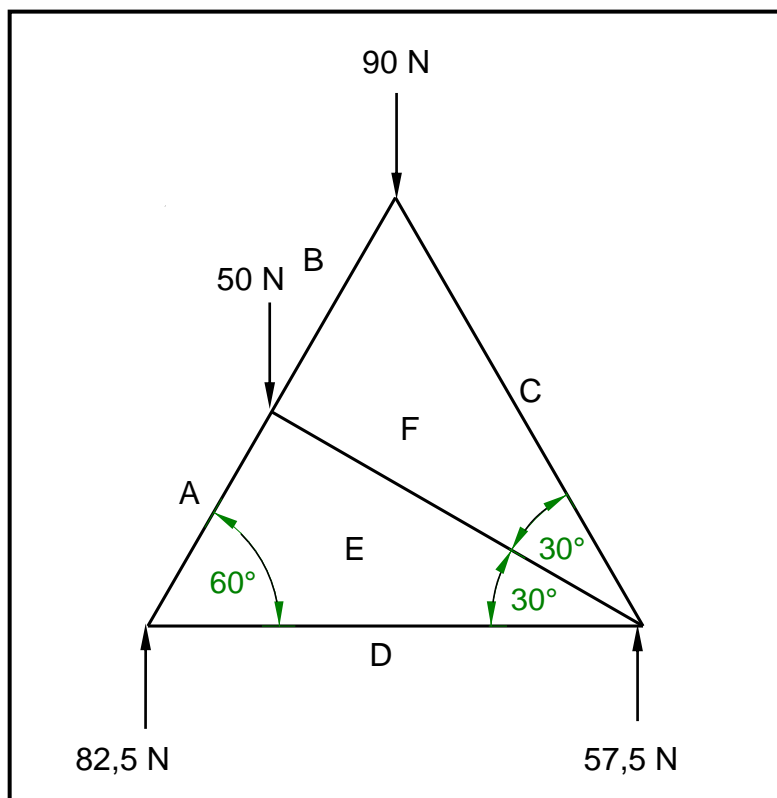

FIGURE 5.2
5.2 FIGURE 5.2 below shows the space diagram of a roof frame.